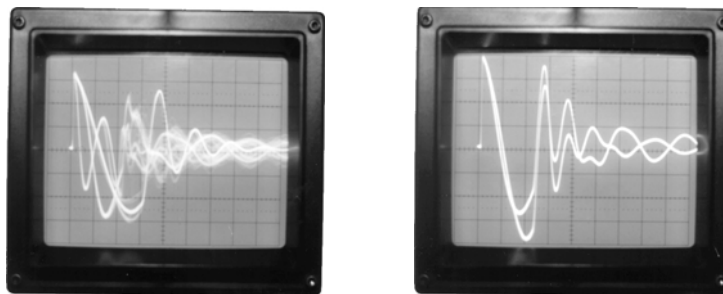

Fig 5-3: Faulty Surge Patterns: Waveforms are erratic during the test (left) or separated throughout the entire trace (right).
When one of the phases has a fault, one of two things will be seen on the tester. (See Fig 5-3.)
- The wave pattern may become erratic during the test, indicating intermittent shorting in the winding and arc-over (left example in Fig 5-3).
- The wave pattern for the faulted phase may appear stable, but when it is compared to the wave pattern of another good phase, it will be slightly different in comparison (right example in Fig 5-3). This is indicative of a fault in the phase associated with the differing wave pattern. Usually, this wave pattern is decreased in amplitude and has a lower frequency which shifts it toward the left.